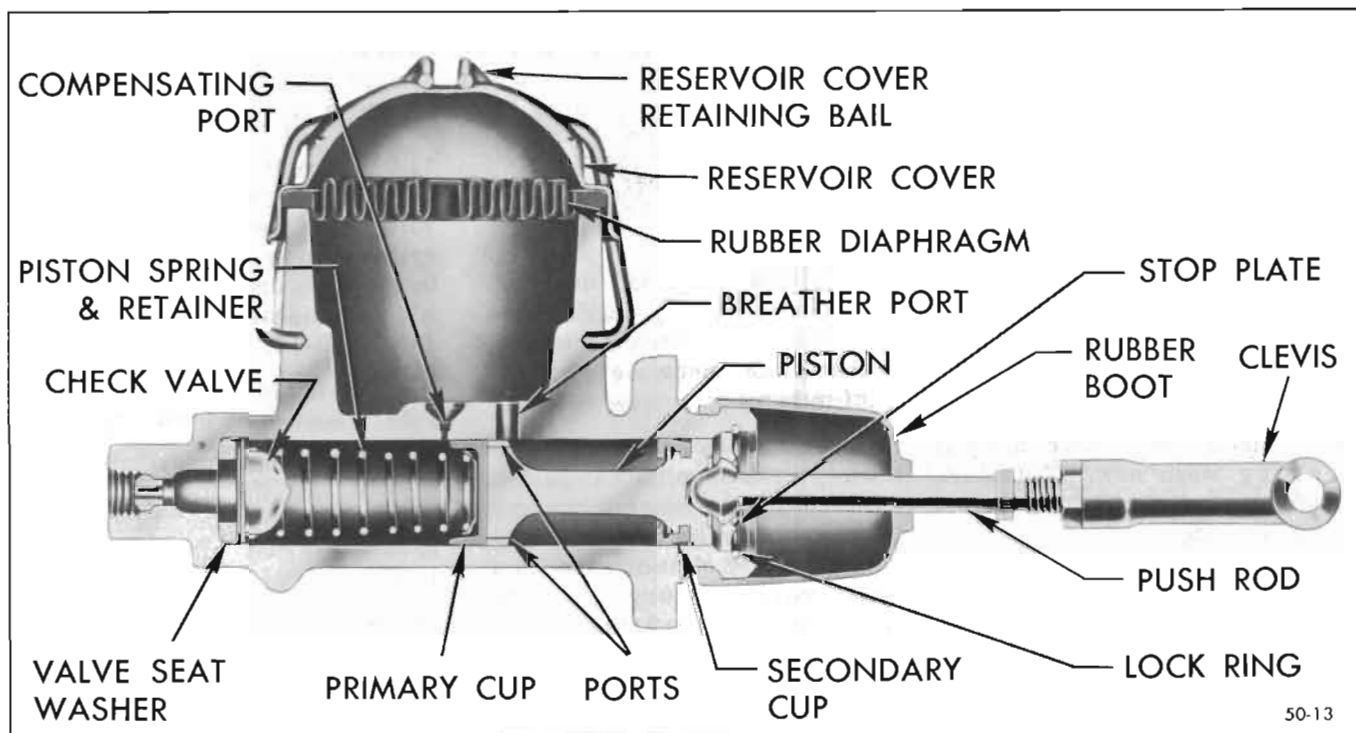

Figure 50-13—Brake Master Cylinder
1. Clean outside of master cylinder thoroughly. Remove reservoir cover and diaphragm. Turn cylinder over and pump push rod by hand to drain all brake fluid. Always discard used fluid. See Figure 50-13.